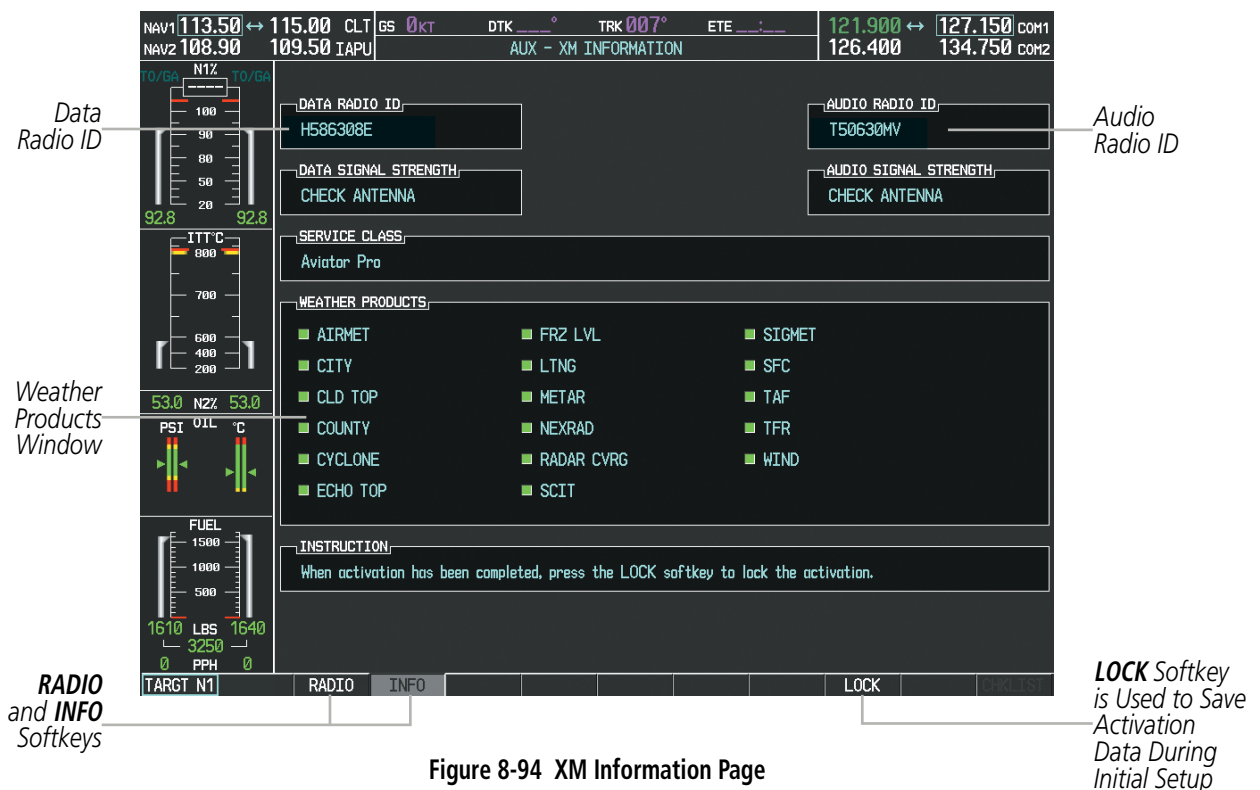

Figure 8-94 XM Information Page
- On the XM Information Page on the MFD (Figure 8-94)